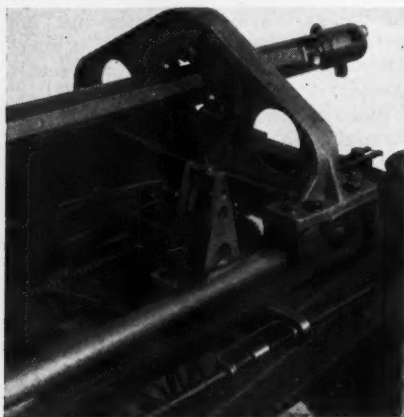

Fig. 4—Objective end of tube camera.
transportation. The front end of the objective tube is fitted with a head with four adjustable rollers (11), by which the head is guided in the part under examination. These parts can be seen in detail in Fig. 4.
Fig. 3 (Above)—This repaired cast iron punch press now does heavier work than before it was broken. Fig. 4 (Right)—Heavy machinery can successfully be repaired by arc welding.